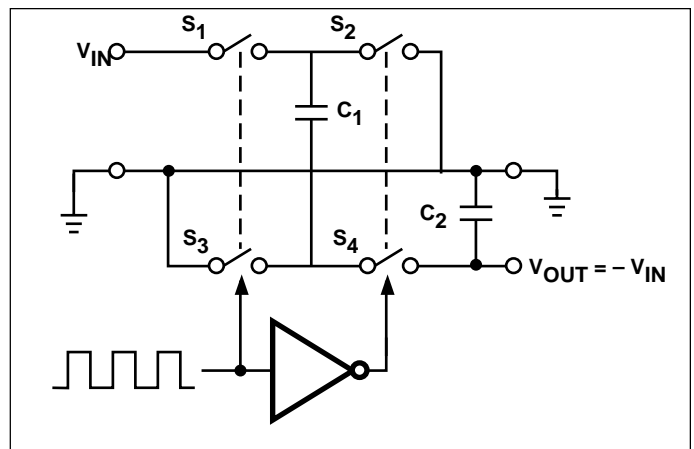
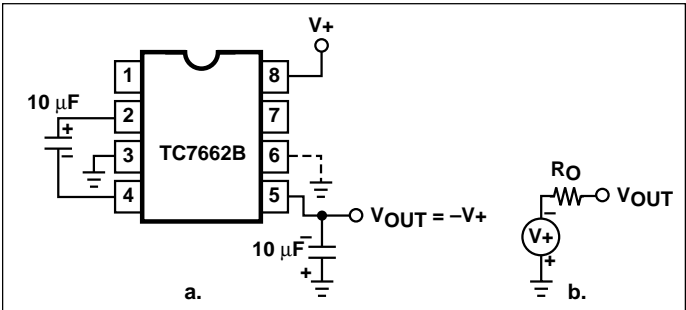
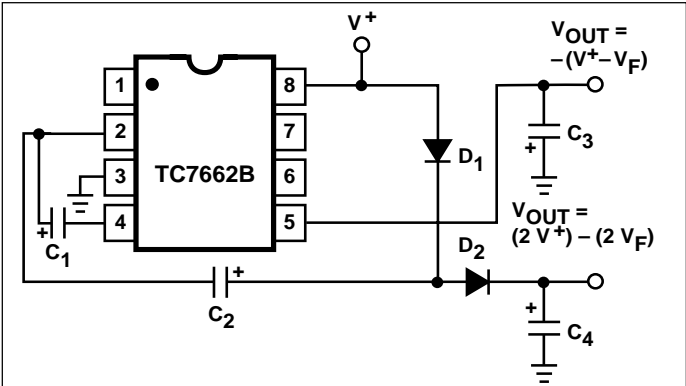

Figure 2. Idealized Negative Voltage Capacitor
Figure 3. Simple Negative Converter and its Output Equivalent
Figure 10. Combined Negative Converter and Positive Doubler
### ELECTRICAL CHARACTERISTICS: $V^+ = 5V$ , $T_A = +25^\circ C$ , OSC = Free running, Test Circuit Figure 2, Unless Otherwise Specified.
The TC7662B contains all the necessary circuitry to complete a negative voltage converter, with the exception of two external capacitors which may be inexpensive 1 $\mu$ F polarized electrolytic types. The mode of operation of the device may be best understood by considering Figure 2, which shows an idealized negative voltage converter. Capacitor C1 is charged to a voltage V+ for the half cycle when switches S1 and S3 are closed. (Note: Switches S2 and S4 are open during this half cycle.) During the second half cycle of operation, switches S2 and S4 are closed, with S1 and S3 open, thereby shifting capacitor C1 negatively by V+ volts. Charge is then transferred from C1 to C2 such that the voltage on C2 is exactly V+, assuming ideal switches and no load on C2. The TC7662B approaches this ideal situation more closely than existing non-mechanical circuits.
In the TC7662B, the four switches of Figure 2 are MOS power switches; S1 is a P-channel device and S2, S3 and S4 are N-channel devices. The main difficulty with this approach is that in integrating the switches, the substrates of S3 and S4 must always remain reverse biased with respect to their sources, but not so much as to degrade their "ON" resistances. In addition, at circuit start up, and under output short circuit conditions (VOUT = V+), the output voltage must be sensed and the substrate bias adjusted accordingly. Failure to accomplish this would result in high power losses and probable device latchup.
where V1 and V2 are the voltages on C1 during the pump and transfer cycles. If the impedances of C1 and C2 are relatively high at the pump frequency (refer to Figure 2) compared to the value of RL, there will be a substantial difference in voltages V1 and V2. Therefore, it is desirable not only to make C2 as large as possible to eliminate output voltage ripple, but also to employ a correspondingly large value for C1 in order to achieve maximum efficiency of operation.
The majority of applications will undoubtedly utilize the TC7662B for generation of negative supply voltages. Figure 3 shows typical connections to provide a negative supply where a positive supply of +1.5V to +15V is available. Keep in mind that pin 6 (LV) is tied to the supply negative (GND) for supply voltages below 3.5 volts.
The output characteristics of the circuit in Figure 3 can be approximated by an ideal voltage source in series with a resistance as shown in Figure 3b. The voltage source has a value of -(V+). The output impedance (RO) is a function of the ON resistance of the internal MOS switches (shown in Figure 2), the switching frequency, the value of C1 and C2, and the ESR (equivalent series resistance) of C1 and C2. A good first order approximation for RO is:
Figure 10 combines the functions shown in Figures 3 and 9 to provide negative voltage conversion and positive voltage doubling simultaneously. This approach would be, for example, suitable for generating +9V and -5V from an existing +5V supply. In this instance, capacitors  $C_1$  and  $C_3$  perform the pump and reservoir functions, respectively, for the generation of the negative voltage, while capacitors  $C_2$  and  $C_4$  are pump and reservoir, respectively, for the doubled positive voltage. There is a penalty in this configuration which combines both functions, however, in that the source impedances of the generated supplies will be somewhat higher due to the finite impedance of the common charge pump driver at pin 2 of the device.